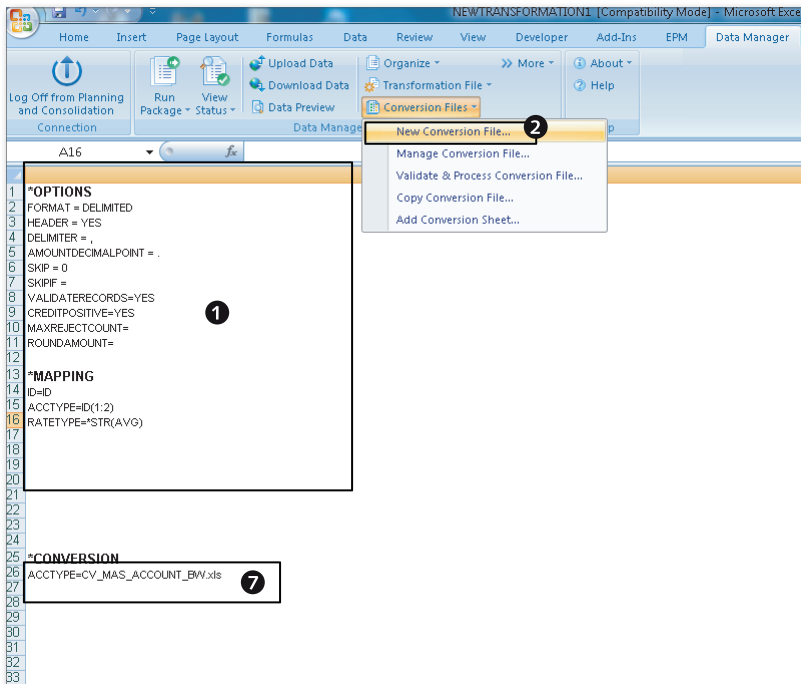

Figure 4.31 Loading Data from an InfoObject into a Dimension—Part A
2. Begin by creating a new transformation file (Figure 4.31, ❶). The first command included in the *MAPPING section takes the characteristic value of an InfoObject in SAP NetWeaver BW and assigns it as a dimension member in SAP BPC. The second command in the *MAPPING section takes the first two characters of the value in the ZACCOUNT InfoObject and assigns them to the ACCTYPE property. Every member in the Account dimension should contain a valid value for the ACCTYPE property. The ACCTYPE property contains the values AST, LEQ, INC, or EXP to denote the type of account.
4. Select the NEW CONVERSION FILE option under the CONVERSION FILES menu to create a conversion file (Figure 4.31, ❷). This file is created to convert the values mapped to the ACCTYPE property.
8. Include the reference to the conversion file you created in the previous step in the conversion section of the transformation file (refer to Figure 4.31, ⑦). When the transformation file is used, the conversion file included here will convert the data for the account type property.